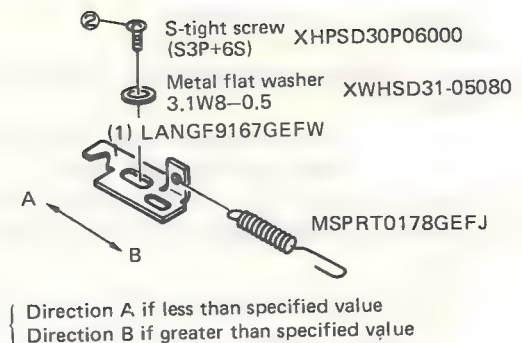

Figure 16
1. If the tape tension is less than the specified value (23 — 28g), move the tension arm spring angle bracket (1) in the direction of arrow A in Figure 16 and tighten screw (2).
2. If the tape tension is greater than the specified value (23 — 28g), move the tension arm spring angle bracket (1) in the direction of arrow B in Figure 16 and tighten screw (2).